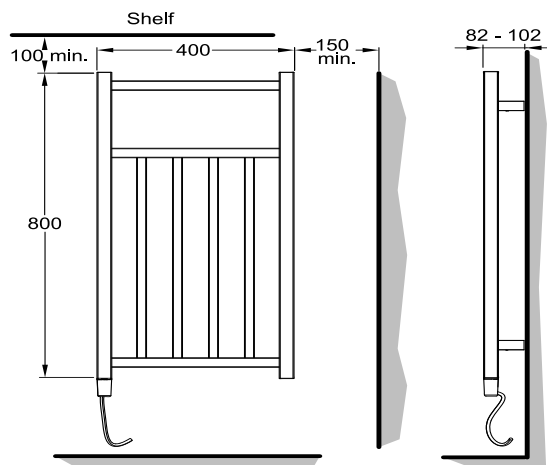
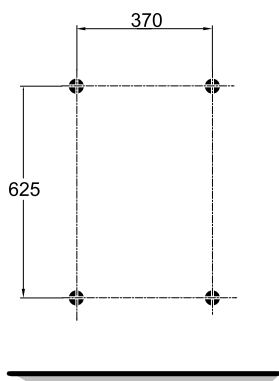

Fig. 1
Fig. 3
**WARNING - to ensure safe/ correct operation the rail must only be mounted vertically as shown in Fig. 1, observing the minimum clearances stated.**
Mark suitable mounting hole positions for the fixing brackets (ensuring they are horizontal) - see Fig. 3, ensure to allow enough room above and below to maintain the minimum clearance stated in Fig. 1.